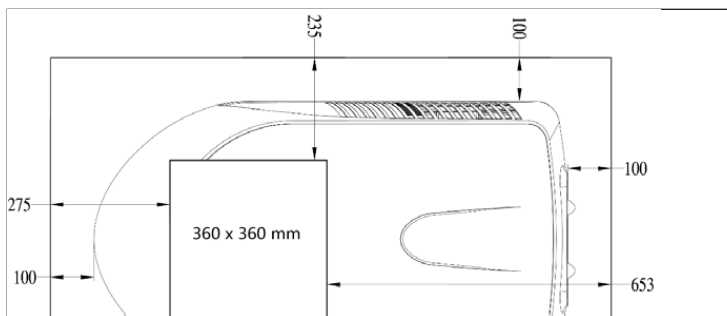

Figure 7
- The minimum distance for the outdoor unit position is shown as Fig. 7, refer to comparison measurement of hole position.